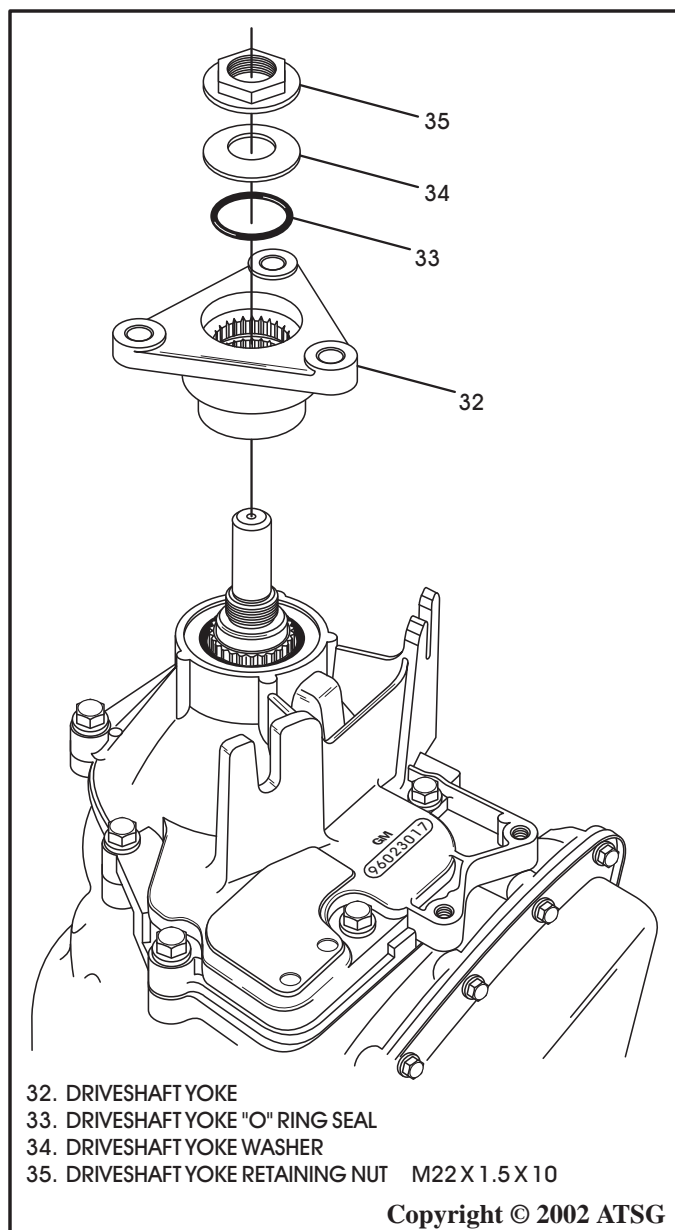

Figure 30
5. Rotate the transmission in fixture so extension housing is facing up, as shown in Figure 30.
6. Put transmission into Park and remove the prop shaft flange nut and washer (See Figure 30)
7. Remove the driveshaft yoke from transmission output shaft, as shown in Figure 30.